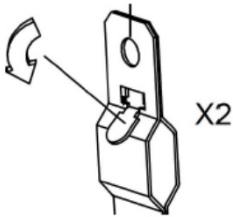

Fig. 5.4
5. Push the snap-clip down to lock the brackets together on the T-Grid bar. (Fig. 5.4)